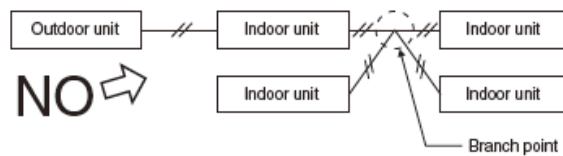

Fig.8-4
- (3) Do not install inter-unit control wiring such as star branch wiring. Star branch wiring causes mis-address setting.(Fig.8-4)